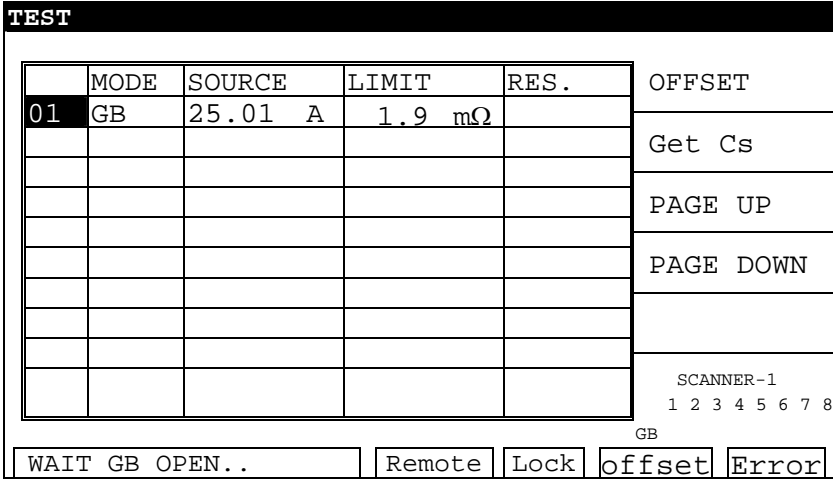

Figure 4-9
- When the test is end, if it judged as PASS, the screen as Figure 4-9 shown.